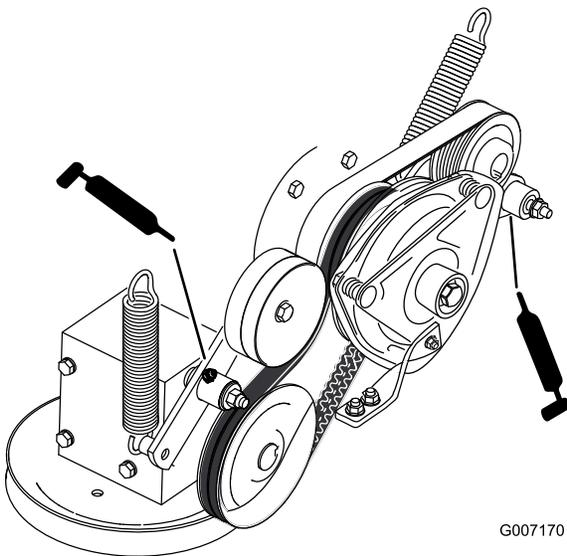

Figure 34
8. Grease the PTO drive belt idler arm (Figure 34).
9. Grease the pump belt idler arm (Figure 34).